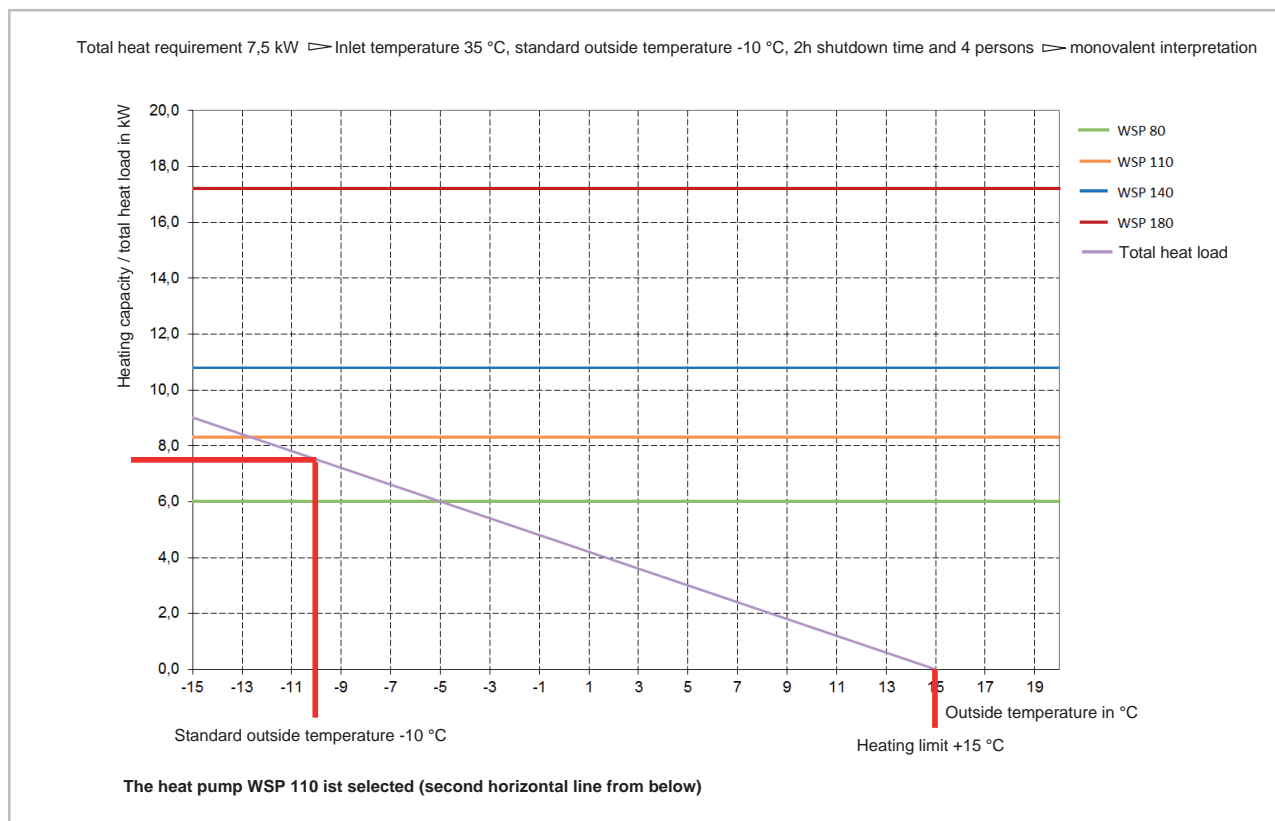

Fig. 9: Selection of the brine heat pump WSP
- By way of a design example, a residential home with a living area of 150 m² and a heating requirement of approx. 35 W/m² was selected. A total of five persons live in the house. The heat load amount to 5.3 kW. Adding a drinking water allowance of 0.2 kW results in a required heating capacity of 6.3 kW. Depending on the power company, an additional charge must then be made in order to factor in any service time-out periods that may apply. The rating and determination of the heat pump's balance-point temperature derives graphically from the heat pump's inlet temperature specific heat-output diagram (in this example 35 °C for underfloor heating). Next, the heat load for the standard outdoor temperature (the lowest temperature of the year locally) and the heat threshold are marked on the graph. The outside-temperature-dependent heating requirement, (Fig. 9) simplified here as a straight-line relationship between heat-load and the start of the heating season, is recorded in the graph of heat-load curves. The intersection of the two straight lines with the rated heat-load curve is plotted on the X axis, where the balance-point temperature is read (in this example approx. -3 °C). The minimum performance of the 2nd heat source is the difference between heat load and the heat pump's maximum heating capacity on these days (in this example, the required power required to cover peak load requirements is approx. 3 kW).